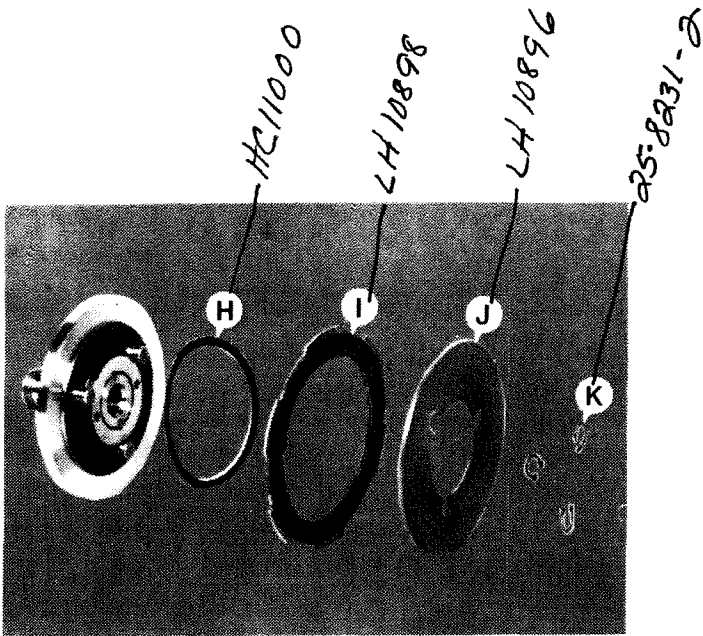

Figure 1.14 - Cross Feed Clutch Components
- c) Remove snap rings "K", clutch disc "J", clutch plate "I", and wave washer "H", Figure 1.14 .